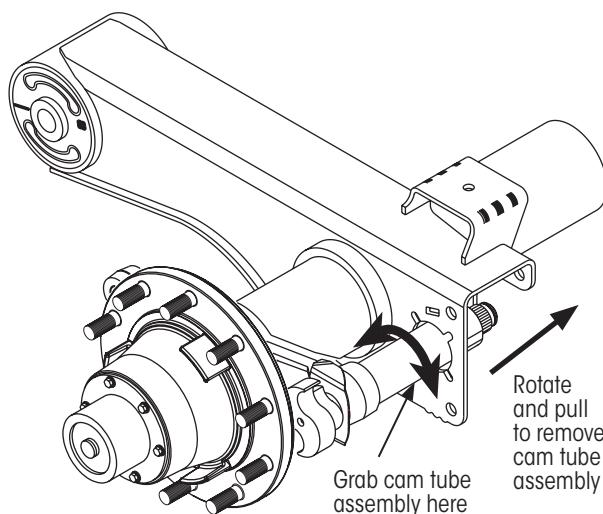

Figure 24: Cam tube assembly removal
3. **Pull** the cam tube assembly free from the spider (use a back-and-forth rotating motion) and **slide** it out through the mounting hole in the suspension beam (Figure 24).